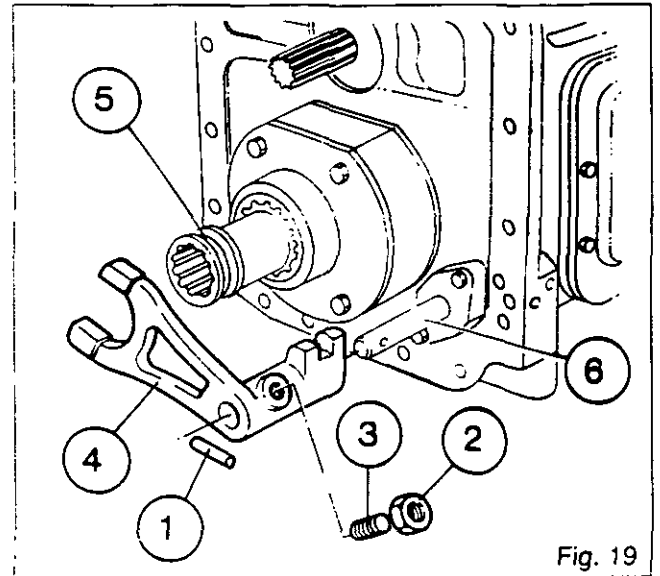

Fig. 19
75. Fit locking plungers (3) and springs (2) and tighten plugs (1) to a torque of 50-70 Nm.
**N.B.:** Gearboxes fitted with creeper gears (Fig.19).